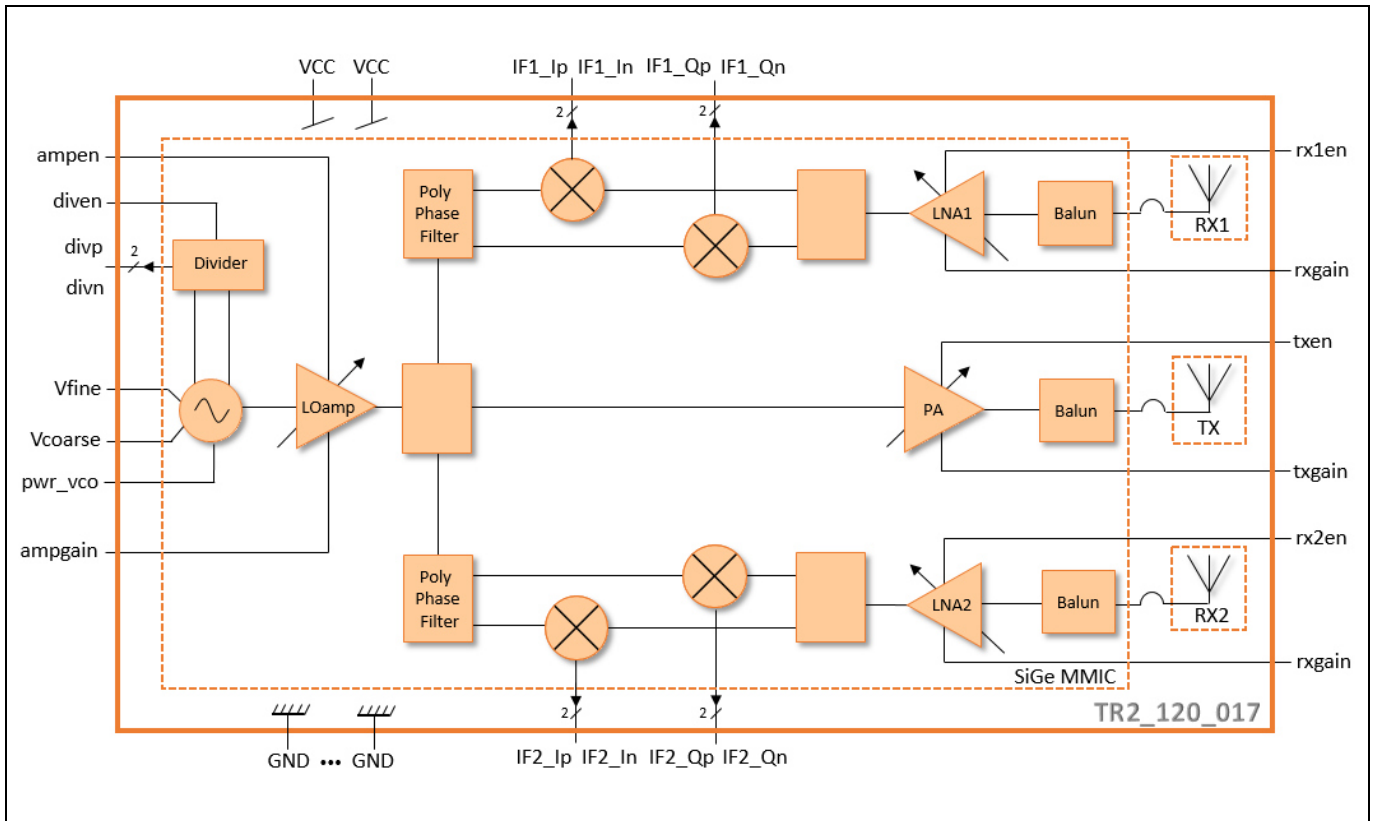

Figure 1 Block Diagram
The TR2_120_017 is an integrated transceiver circuit for the 122 – 123 GHz ISM band with antennas in package consisting of one transmit and two receive channels (see Figure 1). The transmitter channel features a gain-controlled power amplifier (PA) and each of the two receiver channels has a gain-controlled low-noise amplifier (LNA), a quadrature mixer and poly-phase filter. The transceiver features a 120 GHz voltage-controlled oscillator (VCO) with a differential divider output. The analog inputs - Vfine and Vcoarse, tune the VCO frequency. The RF signal from the oscillator is directed to the RX and TX paths via a local oscillator (LO) amplifier followed by a 3-way power divider. In each channel, the RX signal is amplified by the LNA and converted to baseband by the quadrature mixer. The analog tuning inputs together with the integrated frequency divider and external fractional-N PLL can be used for frequency modulated continuous wave (FMCW) radar operation. With fixed oscillator frequency it can be used in continuous wave (CW) mode. Other modulation schemes are possible as well by utilizing analog tuning inputs. The IC has been fabricated in SiGe BiCMOS technology.